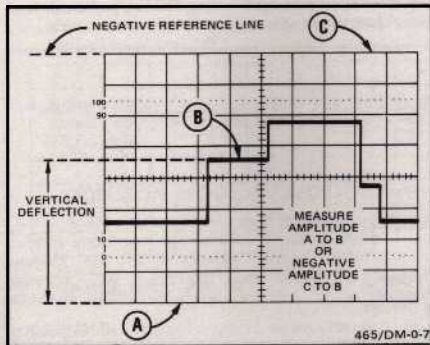

Figure 15. Instantaneous voltage measurement.
- Switch the AC-GND-DC switch to DC. Measure the divisions of vertical deflection between the reference line and the desired point on the waveform (see Figure 15).
EXAMPLE: The vertical distance measured is 4.6 divisions (see Figure 15). The waveform is above the reference line, and the VOLTS/DIV switch is set to 2.